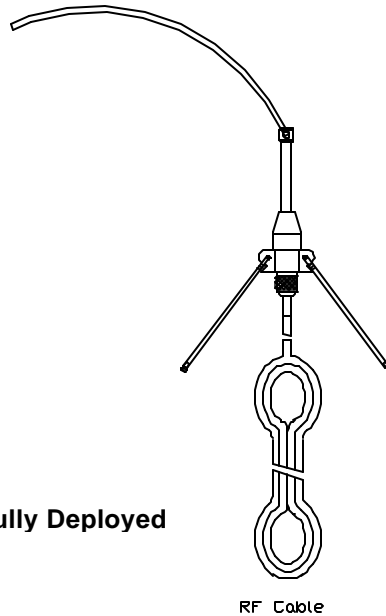

Figure 3 – Antenna Fully Deployed
3. Lower to a level so that the RF cable can be attached to the antenna (See Figure 3: CPAK Antenna Fully Deployed).